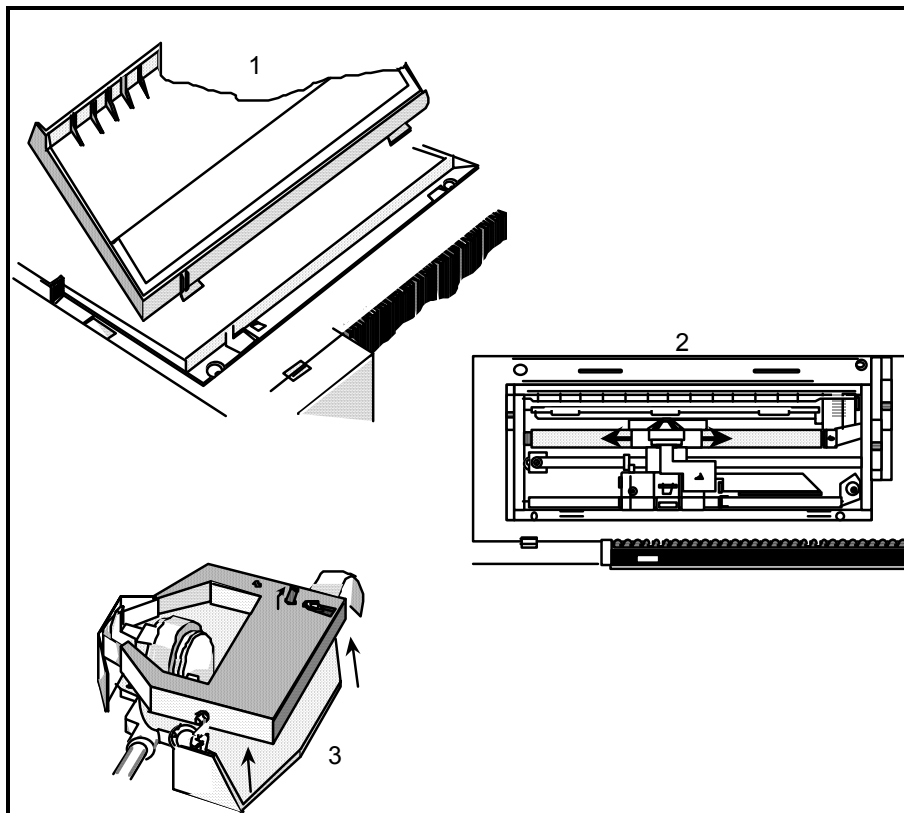

Figure 17-4 — Ribbon Removal
1. Make sure that the power switch on the back of the printer is in the off position (0), then insert the power cable plug into the socket on the back of the printer.
3. Remove the transparent cover as shown in Figure 17-4, illustration 1. Remove any shipping ties or blocks in the printer. If your printer was shipped from the factory, the paper chute was packed separately in the carton. See subsection 17.4.3 for the procedure for attaching the chute. If not already installed, install a ribbon cartridge as covered in subsection 17.4.5.
Numbers on illustrations in Figure 17-4 refer to the steps which follow.
- Step 1. Remove the printer cover (Figure 17-4, step 1).
- Step 2. Move the printer carriage to the center of the printer. **DON'T** perform this step if the printer is on (Figure 17-4, step 2).